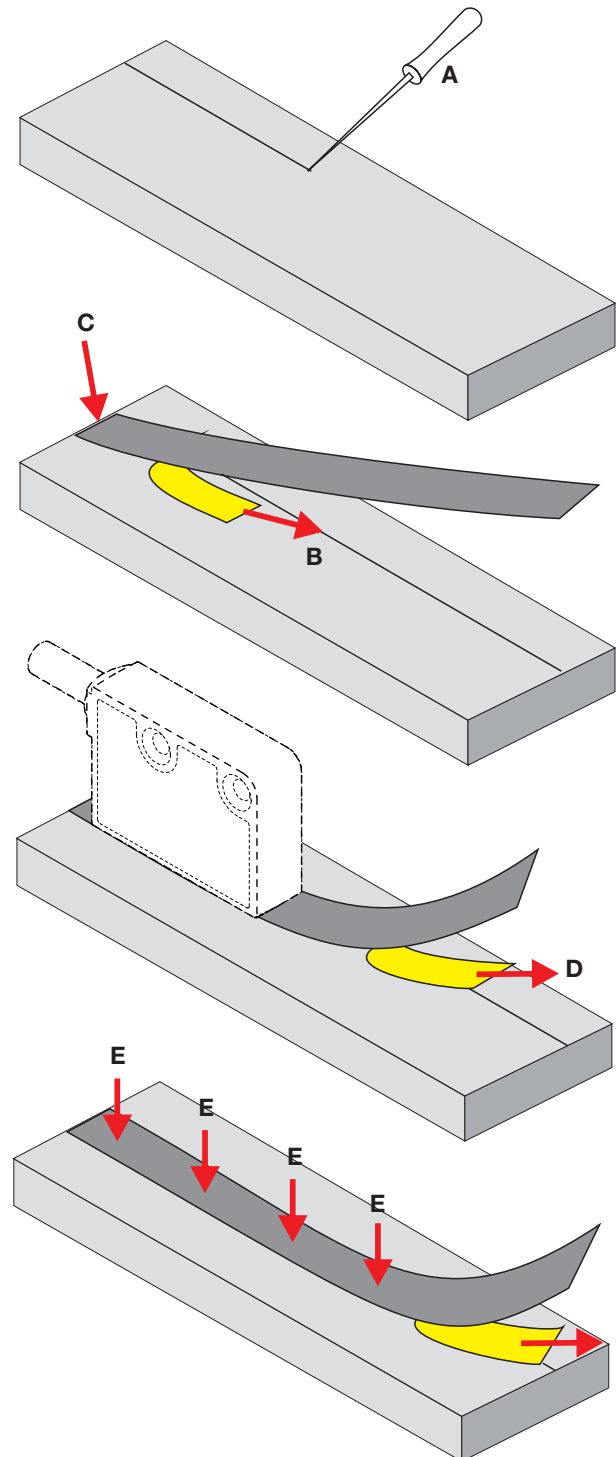

Fig. 4-5: Fastening the tape to a flat surface
1. Mark the reference edge of the tape on the machine part (Fig. 4-5, A).
5. Pull back the film from the back end of the tape (Fig. 4-5, B), align the tape and lightly attach the tape (Fig. 4-5, C).
6. Remove another section of film (Fig. 4-5, D), align the tape and gently press down (Fig. 4-5, E).